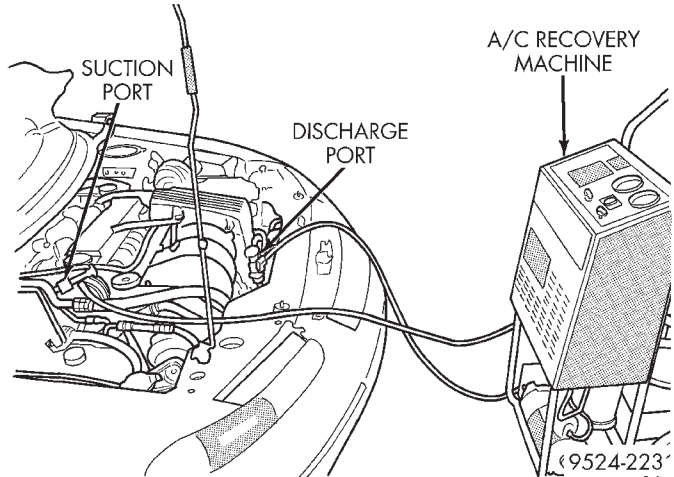

Fig. 3 Refrigerant Recovery Machine Hookup
(1) Connect a suitable charging station, refrigerant recovery machine, and a manifold gauge set with vacuum pump (Fig. 3).
(2) Open suction and discharge valves and start vacuum pump. The vacuum pump should run a minimum of 45 minutes prior to charge, to eliminate all moisture in system. When suction gauge reads -88 kPa (-26 in. Hg) vacuum or greater for 45 minutes, close all valves and turn off vacuum pump. If the system fails to reach specified vacuum, the refrigerant system likely has a leak that must be corrected. If the refrigerant system maintains specified vacuum for at least 30 minutes, start the vacuum pump, open the suction and discharge valves. Then allow the system to evacuate an additional 10 minutes.
(3) Close all valves. Turn off and disconnect the vacuum pump.
(4) The refrigerant system is prepared to be charged with refrigerant.